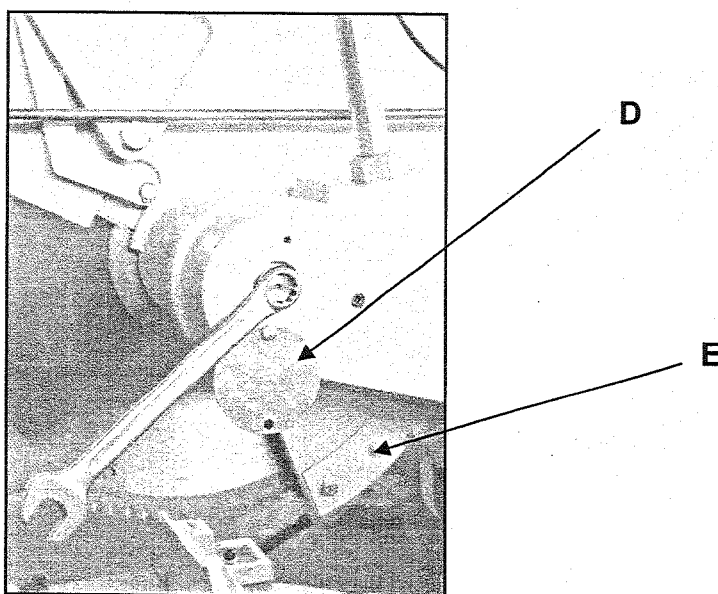

Fig. 12
- Remove the lower blade protection (Fig. 12 part. **E**) to facilitate the removal of the blade from its seat.
- Discover the nut allowing the blocking of the shaft, unscrewing one of the screws fixing the corresponding metal cover (Fig. 12 part. **D**). Insert a spanner of 17mm to contrast the unscrewing of the blade flask screw.